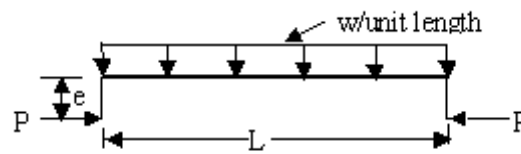

Figure 6b
- (b) A straight uniform column of length 'L' and bending stiffness 'EI' is subjected to uniform lateral loading w/unit length shown in fig6b. The end attachments do not restrict rotation of the column ends. The longitudinal; compressive force 'P' has eccentricity 'e' from the centroids of the end sections and is placed so as to oppose the bending effect of the lateral loading. The eccentricity e can be varied and is to be adjusted to the value which, for given values of P and w, will result in the least maximum bending moment of the column. Show that $e = (w/Pa^2) \tan^2 aL/4$ where $a = P/EI$. [6+10]